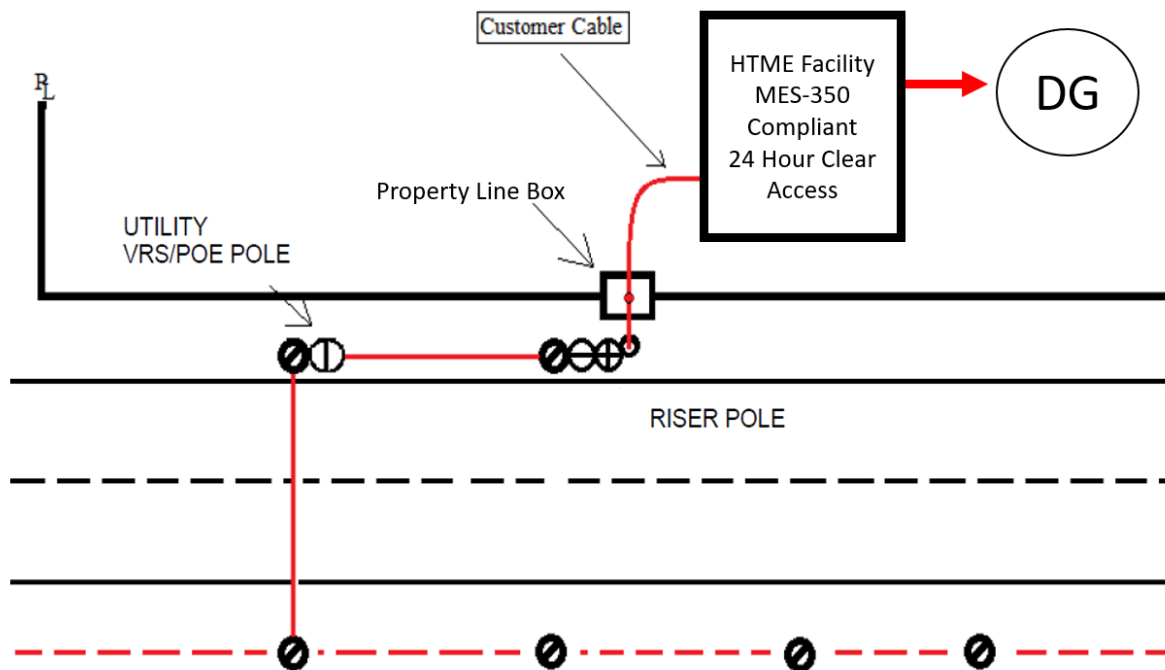

Figure 3 – Example of a High-Tension Non-Network Distribution (EO-10215)
- Figure 3 illustrates a typical High Tension metering equipment installation (EO-10215). Fault protection and isolation are provided by the following devices: